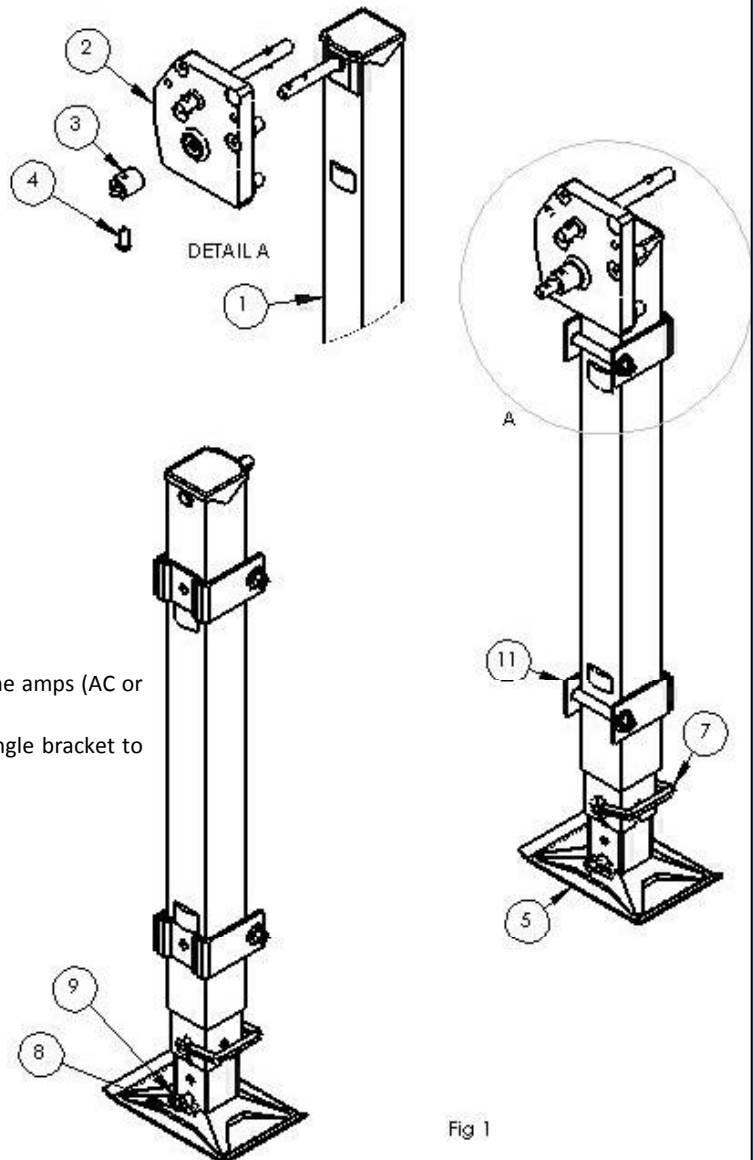

Fig 1
2. Place gear box (**FIG 1 #2**) on the driver leg (**FIG 1 #1**) with the drive 'D' shaft box. Slip the collar (**FIG 1 #3**) over the drive 'D' shaft and attach with screw (**FIG 1 #4**).
3. Assemble foot pad (**FIG 1 #5**) to drop tube with bridge pin clip (**FIG 1 #8**), and clevis pin (**FIG 1 #9**).
5. Attach mounting brackets (**FIG 1 #11**) to legs using carriage bolts and nuts. Torque bolts to 18-20 ft.lbs. On each leg, position one bracket above and one below mounting tabs formed in the landing leg housing.